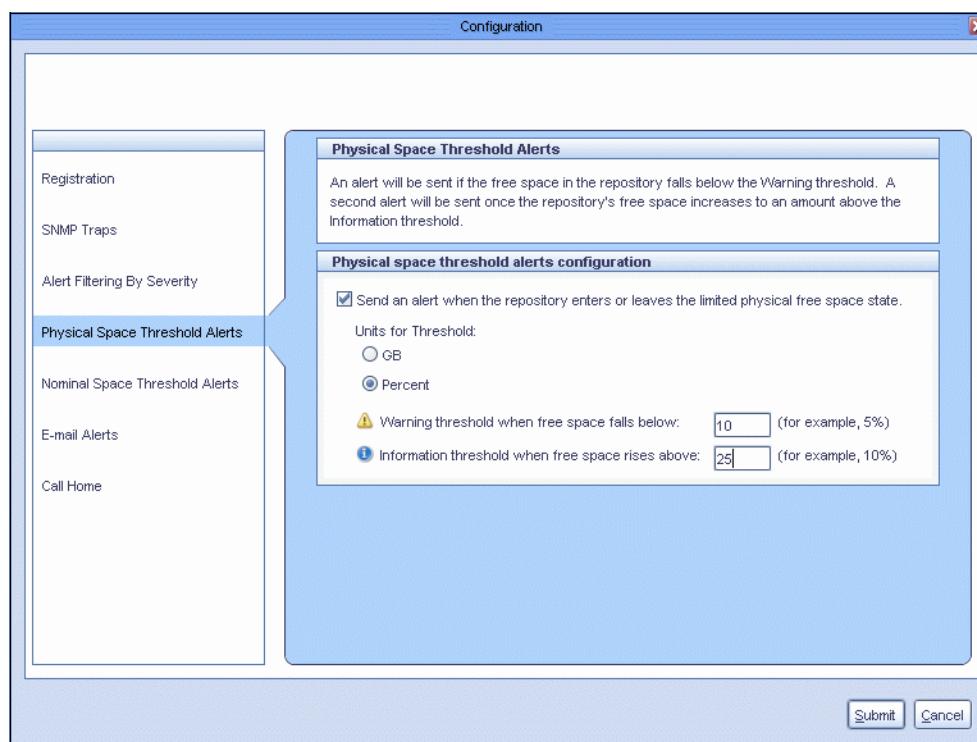

Figure 2-5 Physical Space Threshold Alerts
2. Click **Physical Space Threshold Alerts** and select the values for information and warning messages, as shown in Figure 2-5.